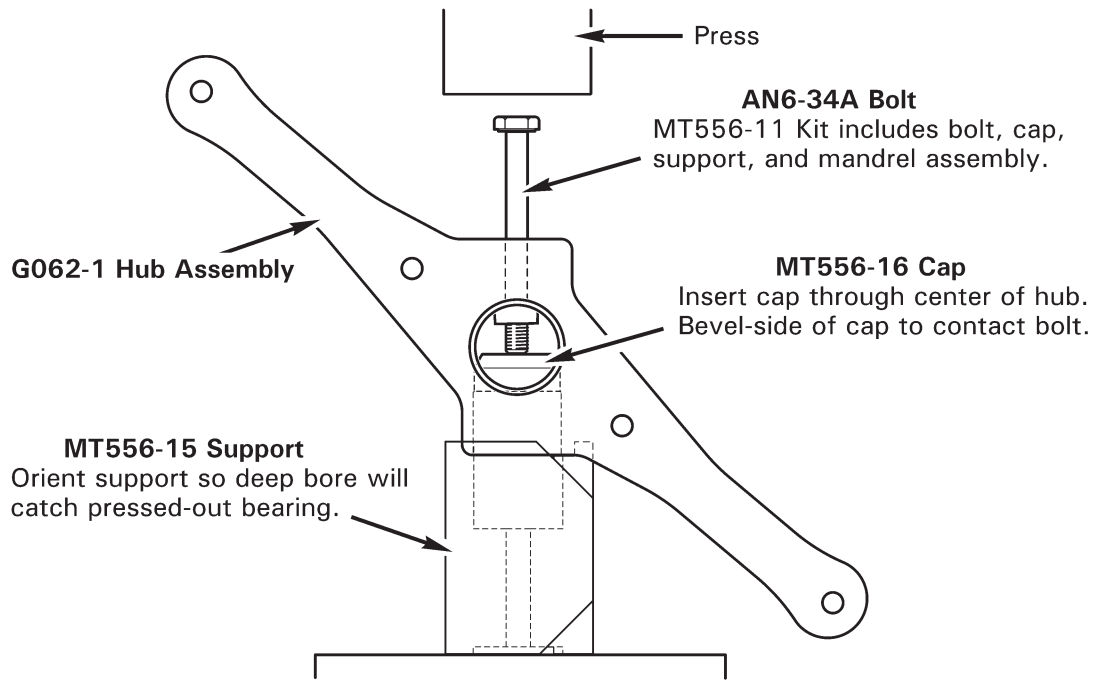

FIGURE 64-5 ELASTOMERIC BEARING REMOVAL
3. Refer to Figure 64-5. Press bearing(s) from hub using MT556-11 bearing removal (and installation) tools.